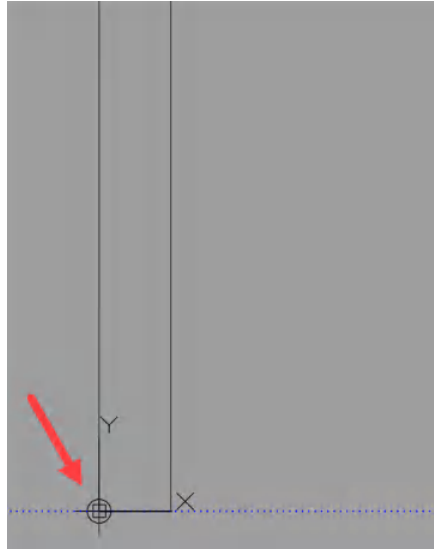

Figure 11.9: The Basepoint parameter displayed on the lower-left endpoint
2. Select the lower-left **Endpoint** object snap on the door at the prompt. This will then display the **Basepoint** symbol on the door block, as shown in *Figure 11.9*.